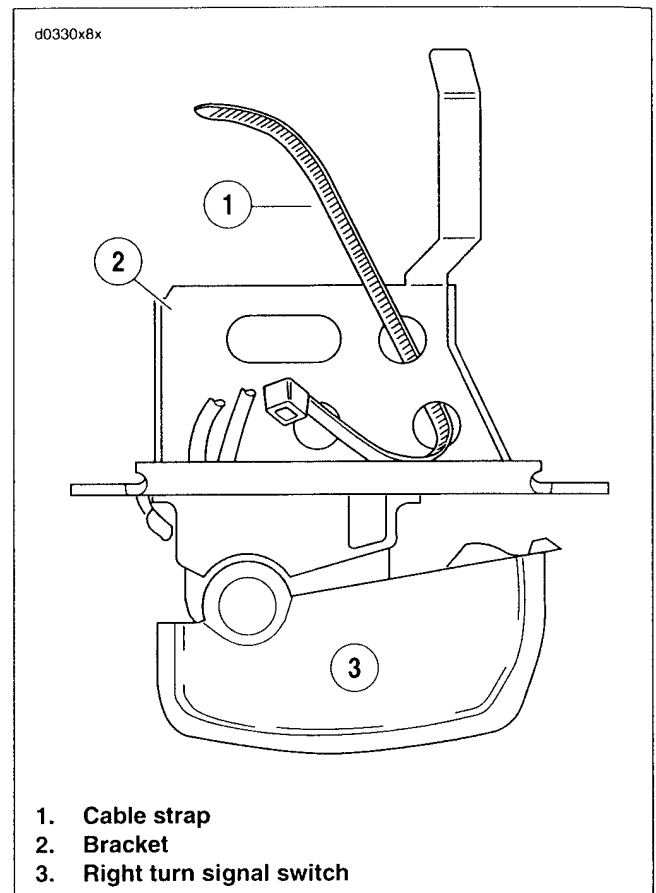

Figure 8-83. Insert Cable Strap in Switch Bracket
1. See Figure 8-83. Insert tapered end of **new** 7.0 in. (177.8 mm) cable strap (1) into round hole in turn signal switch bracket (2) and then feed back through using the adjacent hole. Reserve the oblong hole for the bracket screw.